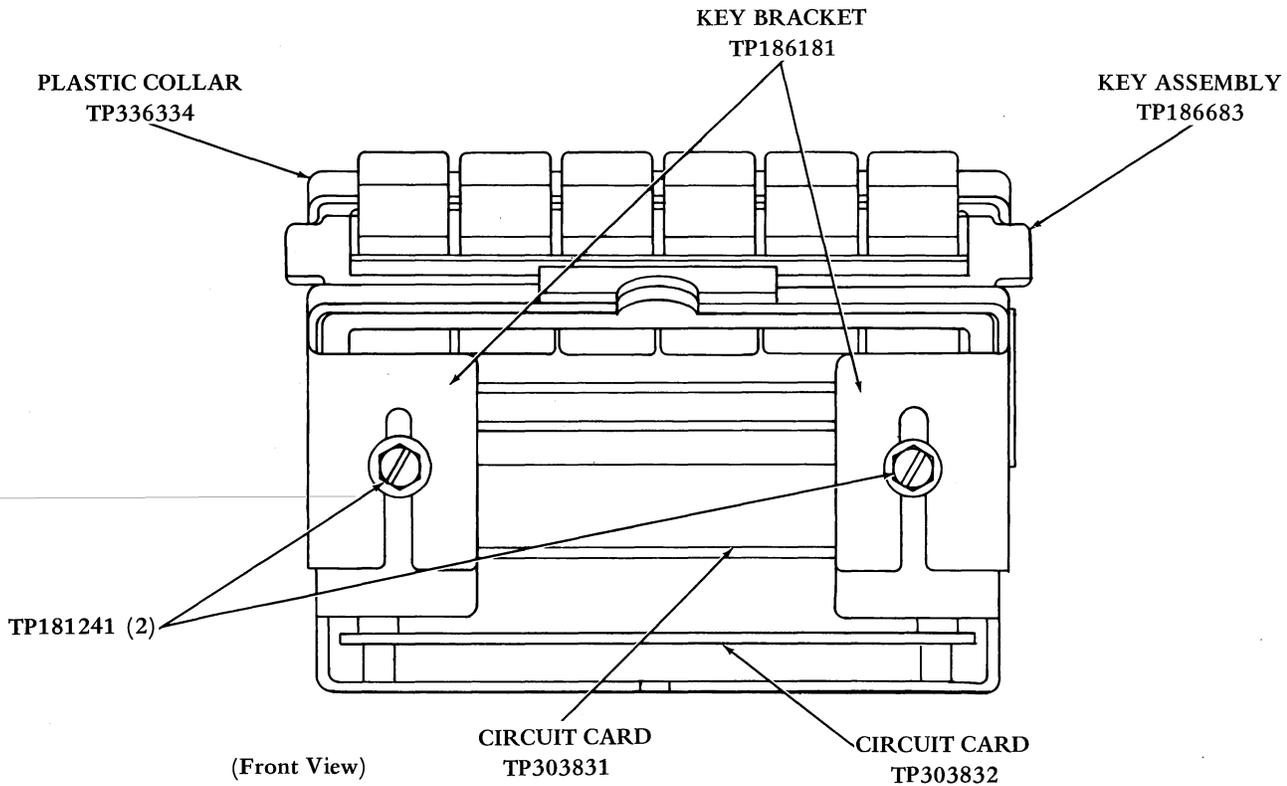

Figure 3 - Logic Package Installation
- (2) Place logic package on hex posts. Install three screws TP181241 friction tight to allow positioning of logic package.
- (3) Set faceplate (TP186672 or TP341362) over logic package with indicator lenses of key assembly TP186683 protruding through their respective positions. Slide logic package as far forward as free motion of "floating" faceplate will permit. Without disturbing adjustment, remove faceplate.
- (4) Note gap at rear edge of logic package mounting bracket. Slide logic package toward rear until gap is reduced to half. Tighten three screws TP181241.
- (5) Loosen two screws TP181241 fastened to key bracket TP186681 (Figure 3). Place key bracket to lowest position. Replace teletypewriter cover.
- (6) Raise key bracket until it is just short of touching cover. Key assembly TP186683 and its plastic collar TP336334 should protrude through cutout in cover.